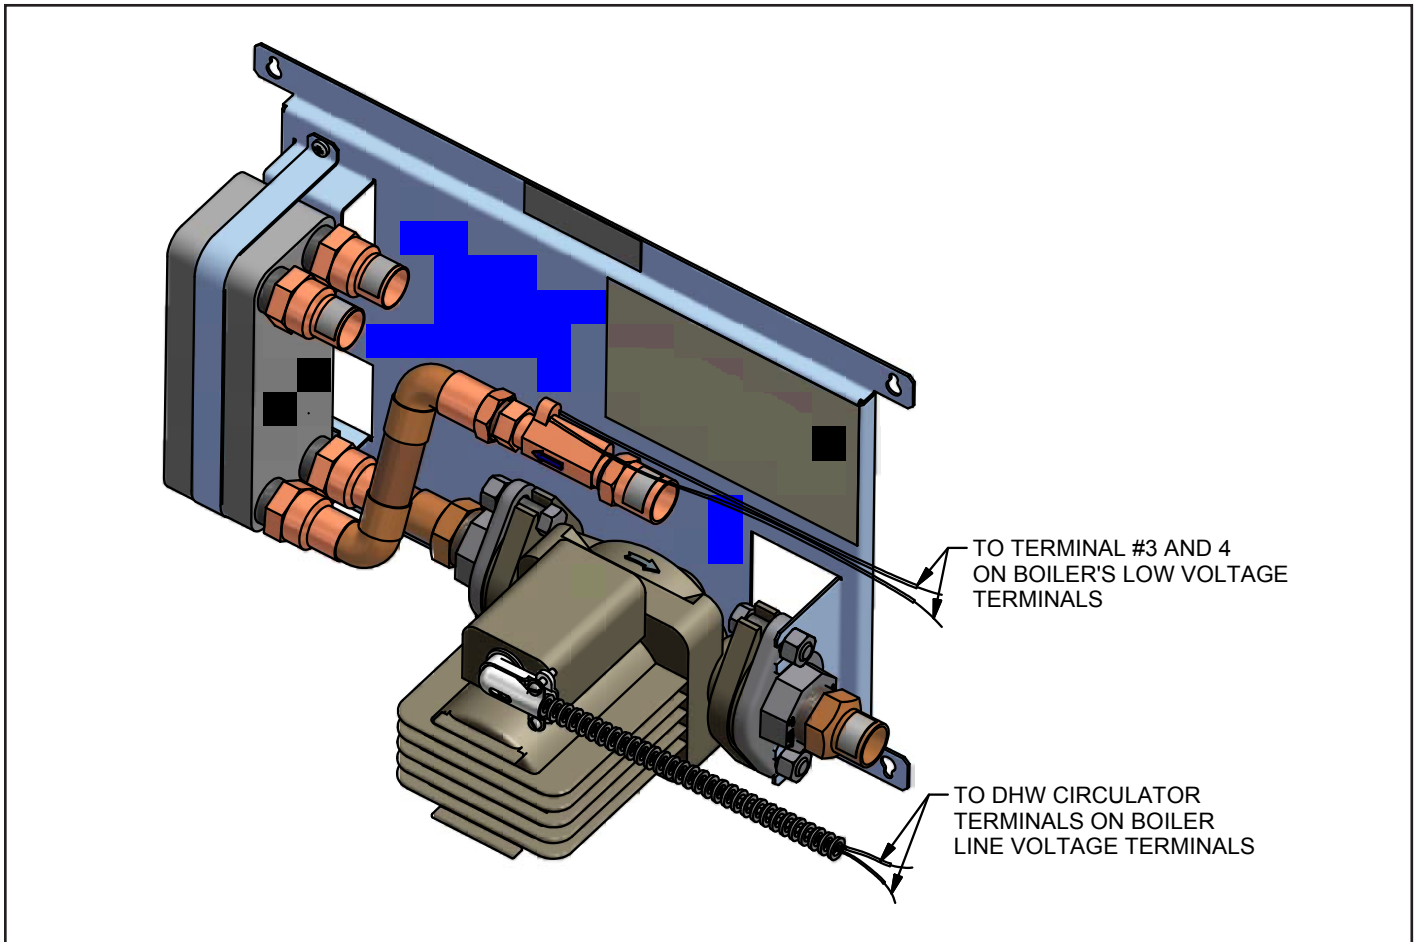

Figure 5. Electrical wiring connections
2. Wire the DHWG system circulator's junction box leads to the boiler's "DHW CIRC" line voltage terminals. Use 14 gage conductors in BX or conduit, secured to the connectors provided (See figure 5).
3. Wire the DHWG system water flow switch to the boiler's "DHW T-STAT" low voltage terminals. (terminal #3 and #4 of boiler low voltage terminals, See figure 5).